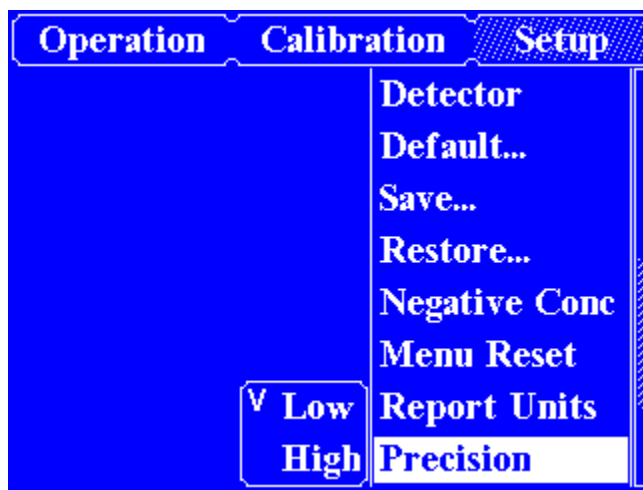

Figure 5-20. Precision Setup Screen
2. Use ← key to high-light an item and press Enter to select it. See figure 5-20.